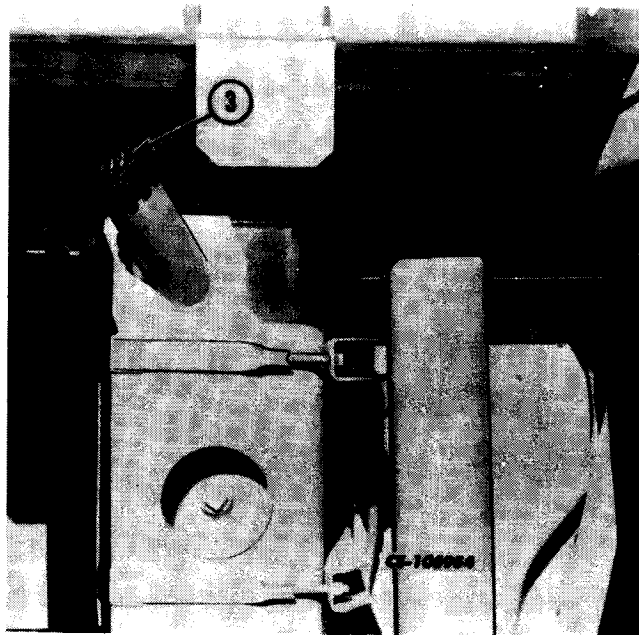

Fig. 3
3. Be sure fuel tanks are full (LH shown in Fig. 3). Fill the tanks at the end of each day's operation to reduce condensation of moisture.